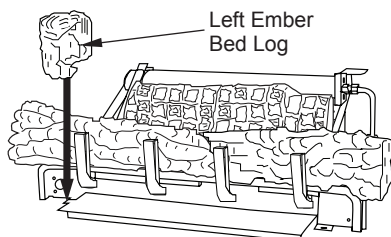

Figure 27 - Installing Left Ember Bed Log
- Place left ember bed log (18" D-073, 24" & 30" D-048) as shown in Figure 27. The log has groove on one side that sets on the ember bed pan. The back side of this log needs to rest against the front of the base assembly. Make sure the flame from the ember pan does not touch the ember bed log.